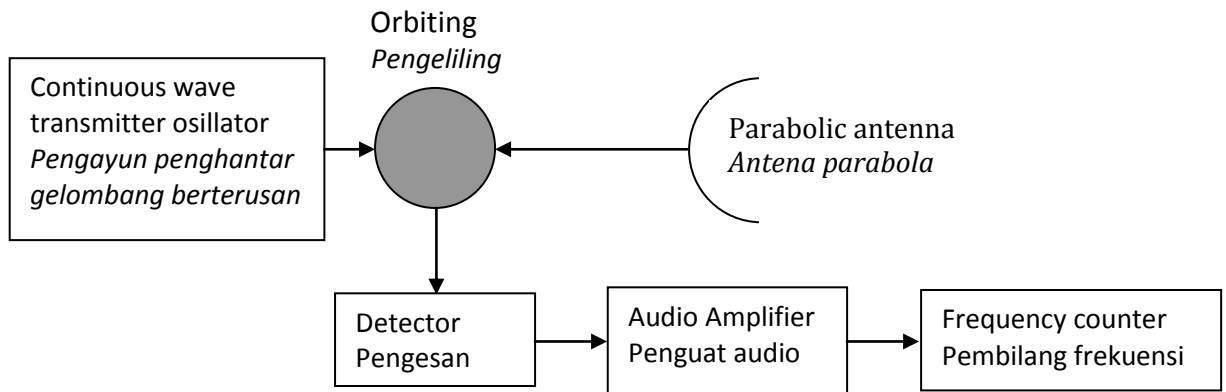

Figure 3
- c) Figure 3 shows a radar system block diagram.
- d) Based on Figure 3, explain the operating of continuous wave radar system.